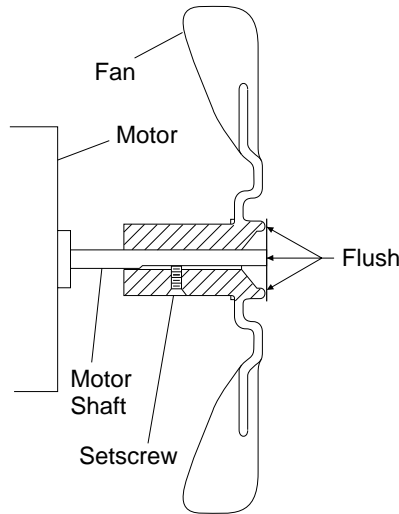

Figure 4 - Fan Cross Section
6. Replace fan on motor shaft. Place fan hub flush with end of motor shaft (see Figure 4).